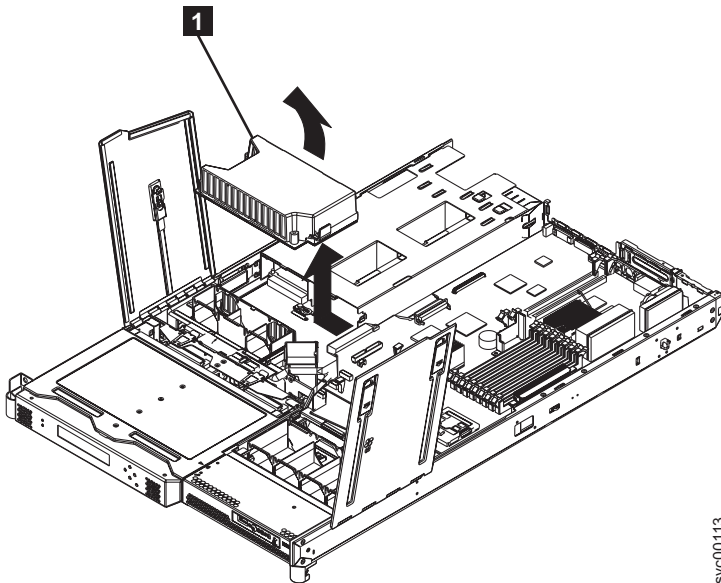

Figure 163. SAN Volume Controller 2145-8F4 or SAN Volume Controller 2145-8F2 power backplane
- Slide the power backplane to the left, as shown in Figure 163, and disconnect it from the system board.